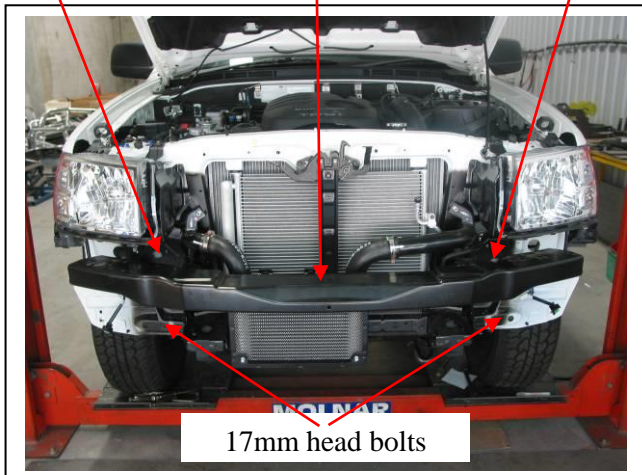

Figure 1
2. Remove bumper cover support. Access from under front of support, two 17mm head bolts (one each side) and inside engine bay on top of chassis rail. Two 17mm head bolts (one each side). **See figure 1.**